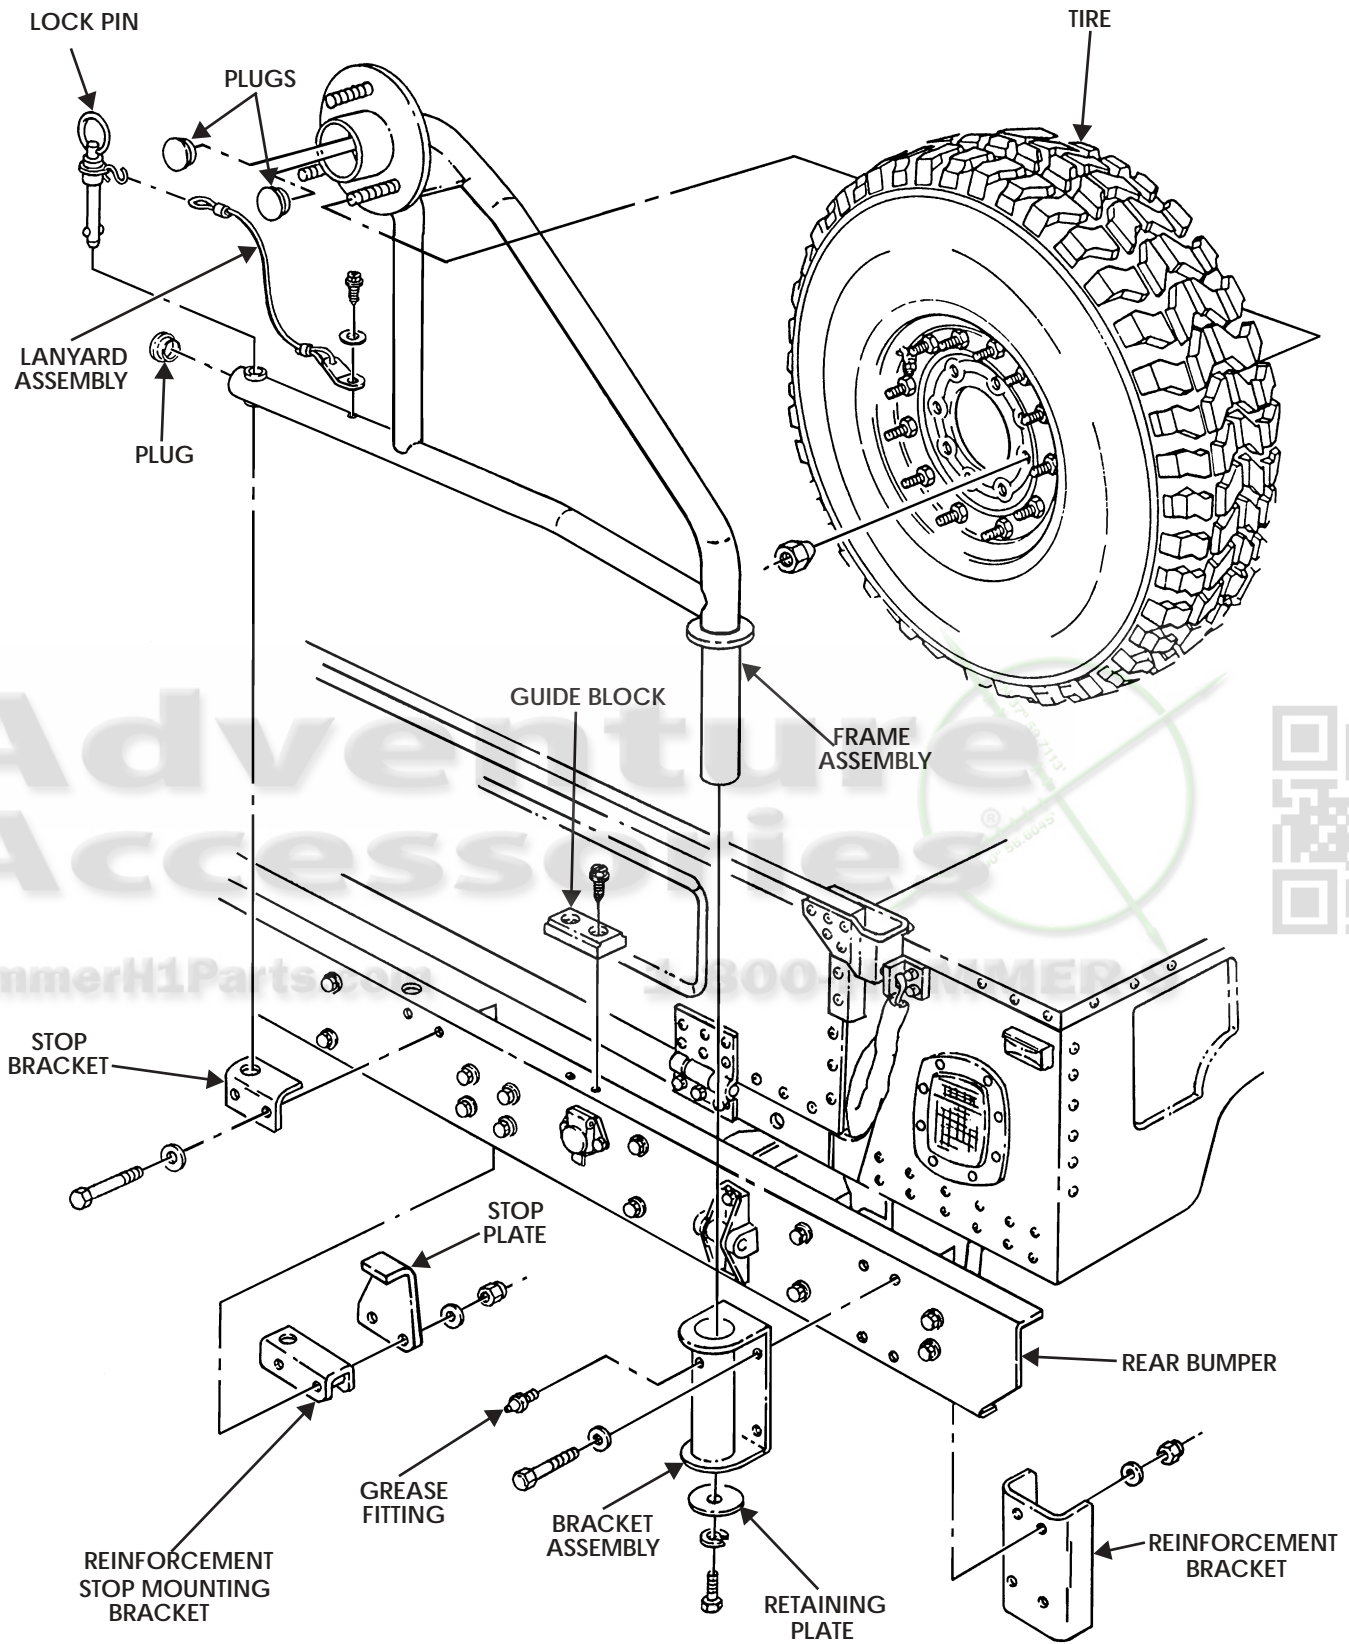

Figure 13-29: Swing-Away Spare Tire Carrier
1. Remove three lug nuts and tire from frame assembly (Figure 13-29).
1. Install grease fitting in bracket assembly (Figure 13-29).